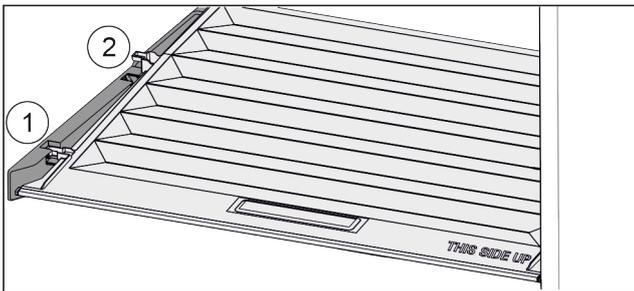

Fig. 31
- ▶ Pull the lid up at the front in the retaining parts to the opening Fig. 31 (1).
- ▶ Lift from the back and pull it up and out Fig. 31 (2).